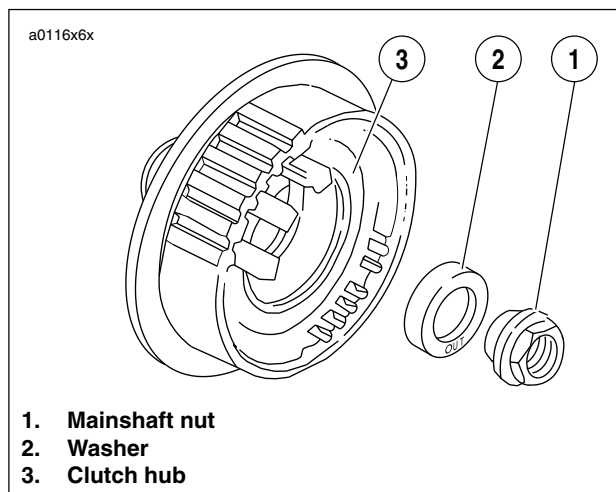

Figure 6-22. Mainshaft Nut and Washer
See Figure 6-22. Washer must be installed with the word "out" facing the mainshaft nut or transmission may be damaged.
3. See Figure 6-22. Install mainshaft nut and washer.